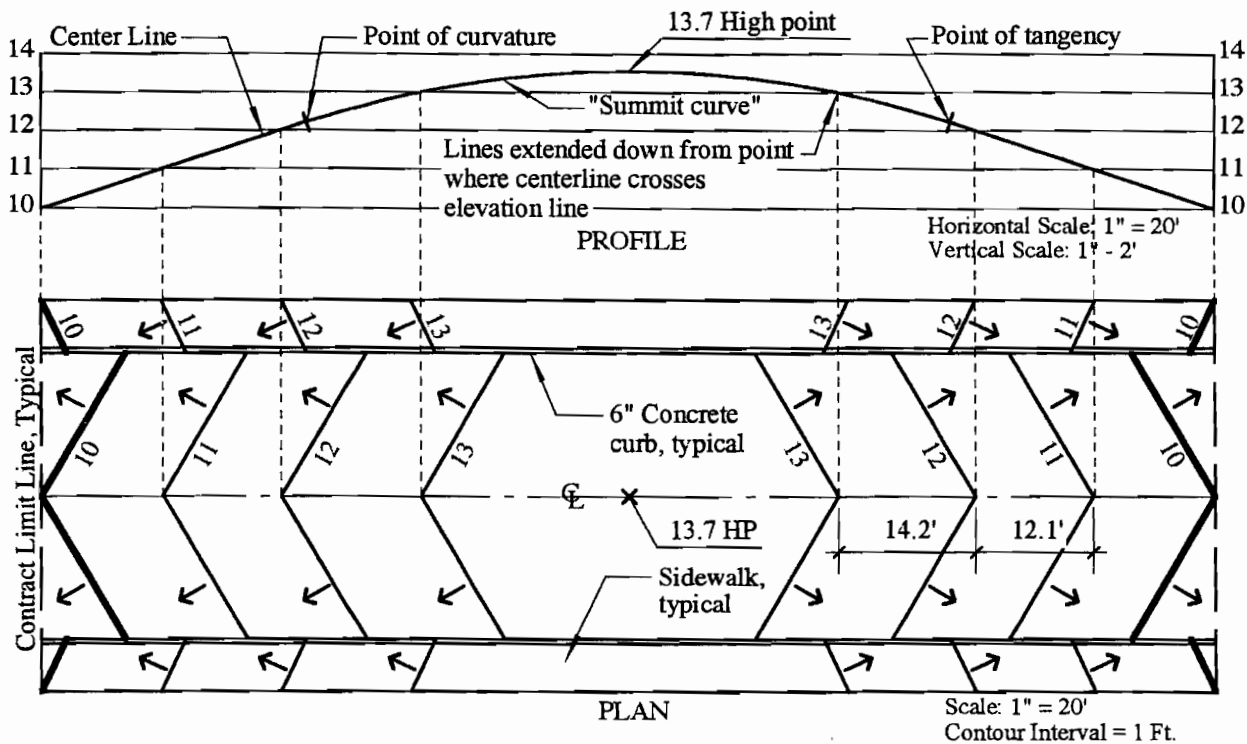

Figure 2-5. Example of plan and profile for road
Plan and Profile Vignettes — Another vignette type is the plan and profile style problem shown in Figure 2-5. Plan and profile vignettes always feature a road, and may also add some other lineal design element, such as a swale. The road may be symmetrical about its centerline, or it may be asymmetrical, such as when there's a six-inch curb and sidewalk on one side, and no curb but a shoulder on the other side. Regardless of the configuration, the profile determines the elevations along the centerline or centerlines. The key to solving a plan and profile vignette is to project the points where the centerline on the profile cross the elevation lines down onto the centerline (or centerlines) on the plan. Understand that the whole number contour line crossing points along the centerline are driven solely by the profile. Using a profile to establish elevations on a road surface represents a simplified means for providing a vertical curve as is evidenced on the plan shown in Figure 2-5 where the contour spacing near the summit becomes longer (compare the greater length between contour lines 12 and 13 with the lengths between contour lines 10, 11 and 12). Be sure to search the plan view portion of the plan thoroughly for any information that may be relevant to the solution, such as paving material, e.g., asphalt concrete (AC), or portland cement concrete (PCC). Remember, all plan text is has relevancy to the problem.